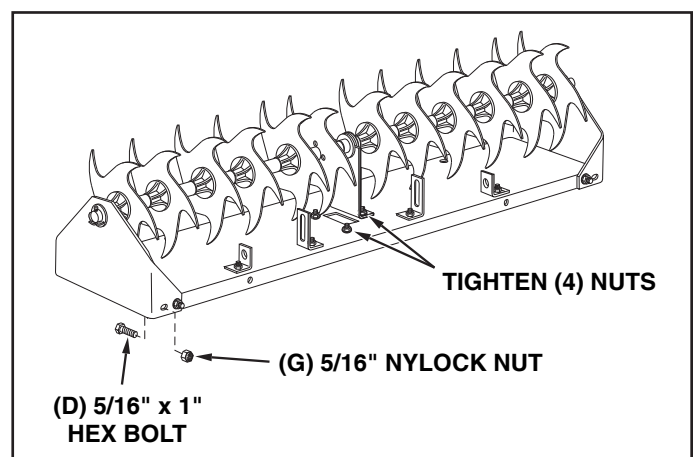

FIGURE 7
12. Assemble four 5/16" x 1" hex bolts (D) and 5/16" nylock nuts (G) to the holes that were left empty at each corner of the tray. **Tighten** all eight corner bolts. See figure 7.